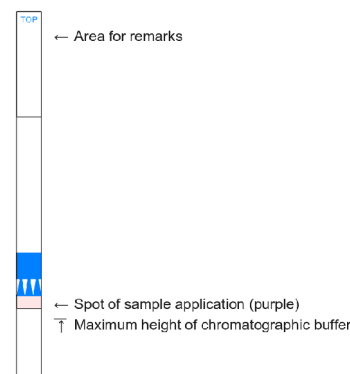

Fig. 1: Layout of the Lateral-Flow Dipsticks
Lateral-Flow Dipsticks (v. Fig. 1) are used for the detection. They consist of an area of sample application (purple), a membrane and an absorption area (white) With exception of the application area the whole strip is covered by a tape. The strip can be touched at the covered areas. Remarks should be made only on the tape above the absorption area. Hybridization products are applied directly onto the Lateral-Flow Dipstick.
3.	Pipet 10 µl of the hybridization reaction close to the edge of the tape marked with triangles onto the free membrane part of the LFD (v. Fig. 1). A bleeding of the liquid is normal.